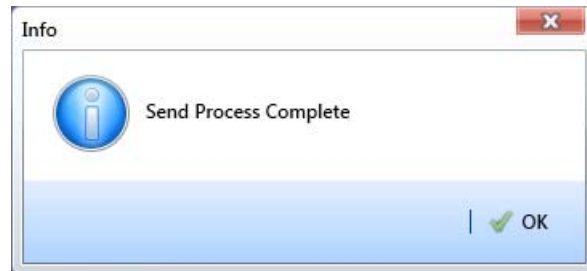

Figure 13-9. Send Process Complete
- 16 Click  **OK** when the message *Send Process Complete* displays (Figure 13-9). If you selected to send the survey file to the Allegro, the survey file transfers to the *PSData* folder on the Allegro.